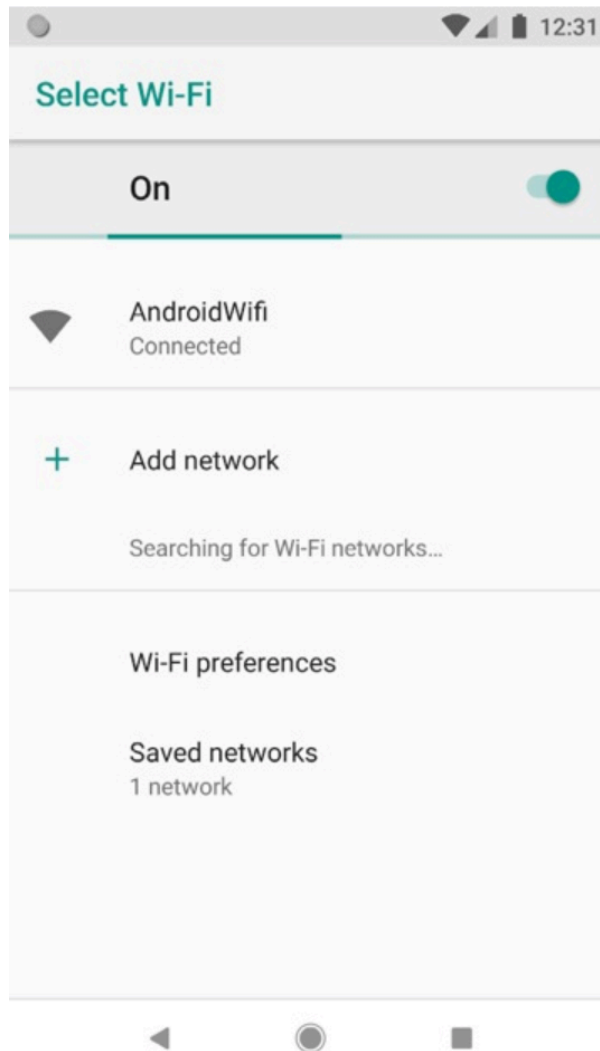

Fig. 9 – WiFi successfully connected.
4. Select the chosen WiFi network and enter your credentials (see fig. 9). Once completed click the back icon to return to the Smart Probe main screen.